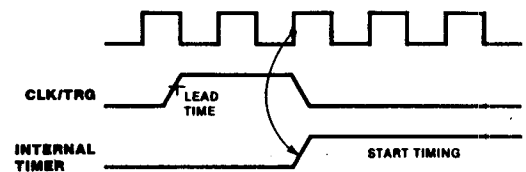

Figure 11. Timer Mode Timing
**Timer Operation.** In the timer mode, a CLK/TRG pulse input starts the timer (Figure 11) on the second succeeding rising edge of CLK. The trigger pulse is asynchronous, and it must have a minimum width. A minimum lead time (210 ns) is required between the active edge of the CLK/TRG and the next rising edge of CLK to enable the prescaler on the following clock edge. If the CLK/TRG edge occurs closer than this, the initiation of the timer function is delayed one clock cycle. This corresponds to the start-up timing discussed in the programming section. The timer can also be started automatically if so programmed by the channel control word.